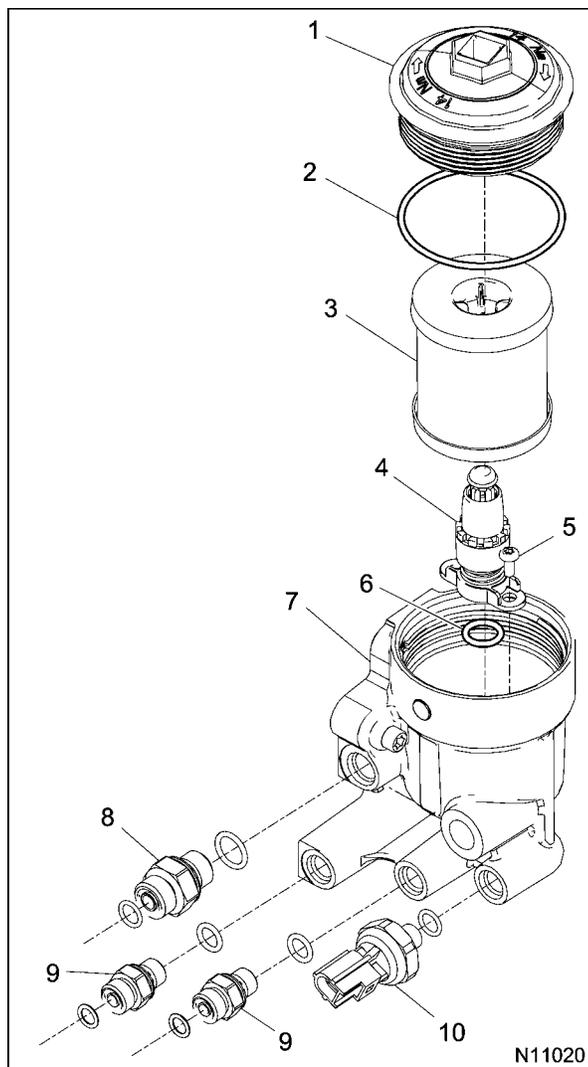

Figure 217 Secondary fuel filter assembly
3. Check the fuel return tube assembly (Figure 217) for broken or cracked pieces.